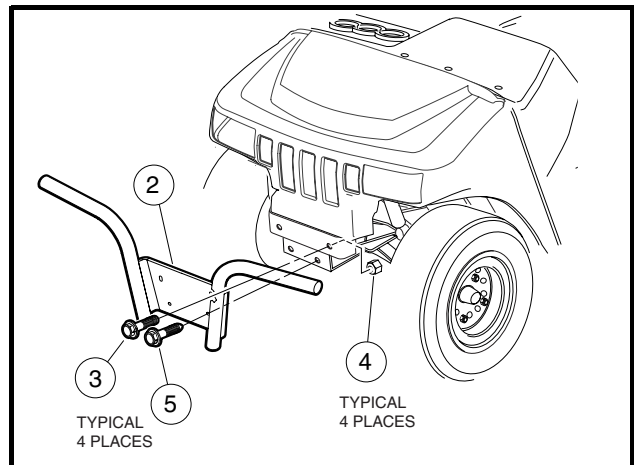

Figure 4-2 Front Brush Guard
1. Remove bolts (3) and (5) and lock nuts (4) and pull brush guard (2) from vehicle frame (**Figure 4-2, Page 4-3**). See following **WARNING**.